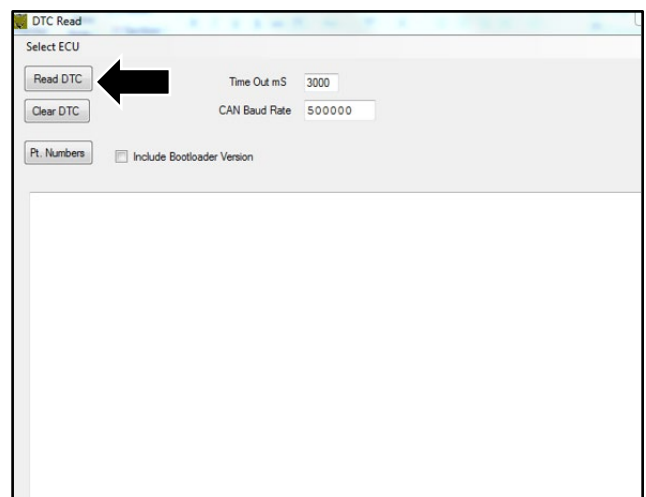

Figure 12
18. Select "Read DTC" (refer to Figure 12).